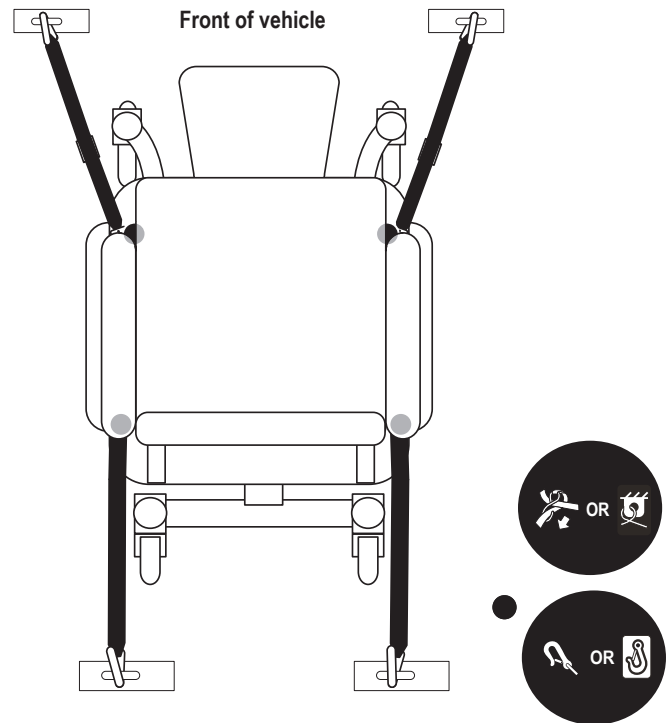

Figure 1. Securing the Power Chair
- Attach the four, six, or eight tie-down straps only to designated, labeled transit securement points indicated by anchor symbols on the power chair. **See figures 1 through 5.** Tighten the straps to sufficiently remove all slack.
- Position the anchor points for the rear tie-down straps directly behind the rear securement points on the power chair. The front tie-down straps should anchor to floor points that are spaced wider than the power chair to provide increased lateral stability. **See figure 1.**